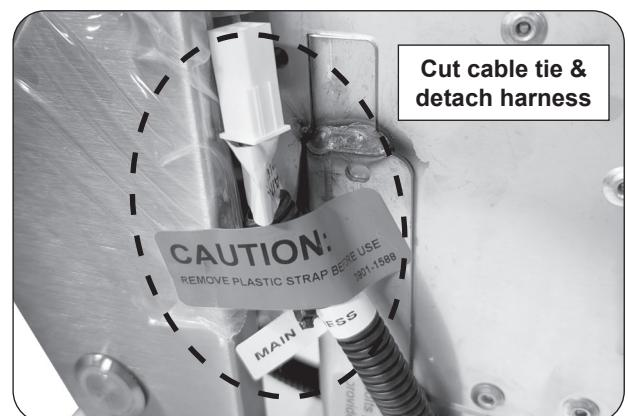

Fig. 28-3 Cut cable-tie
3. Locate the wire harness that is cable-tied to the right side of the control panel, remove the caution sticker, cut the cable tie, and allow the harness to hang freely. See Fig. 28-3.